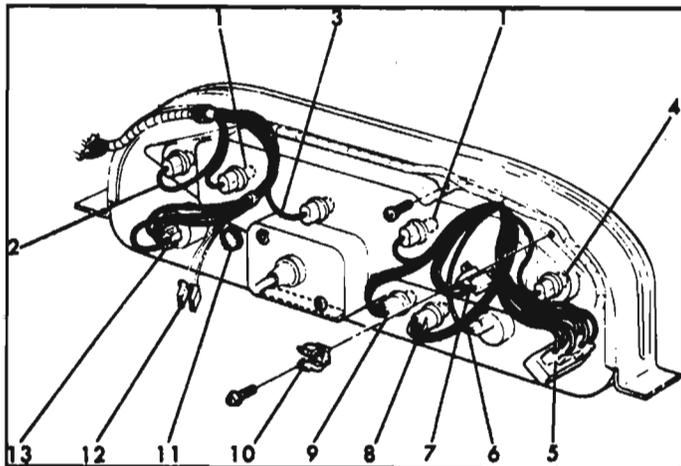

Fig. 8-114—Instrument Cluster Wiring
quickly snapped in or out of position. Figure 8-114 shows all electrical connections to the back of the cluster.
2. Remove the connectors from the back of the instrument cluster. Pull harness out of retaining clips on back of cluster (fig. 8-114). Disconnect
- Install light switch, lighter and all connectors to rear of cluster assembly. Refer to Figure 8-114. Connect speedometer cable.